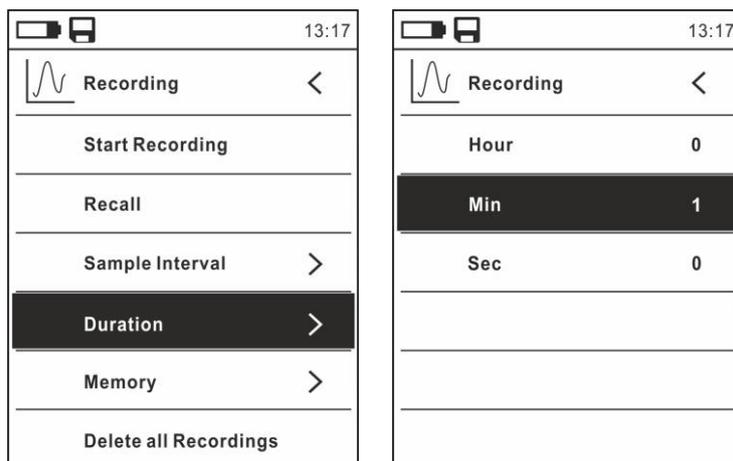

Fig. 32: Data logger function – Setting of recording duration
8. Select item “Duration” (see Fig. 32 – left side) and press key **▶**. The screen in Fig. 32 – right side appears on the display.